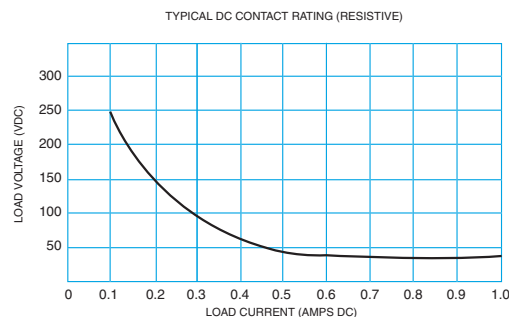

FIGURE 2
Contact Load Ratings (DC) (See Fig. 2 for other DC resistive voltage/current ratings)	Resistive: 1 Amp/28Vdc Inductive: 200 mA/28Vdc (320 mH) Lamp: 100 mA/28Vdc Low Level: 10 to 50 $\mu$ A/10 to 50mV